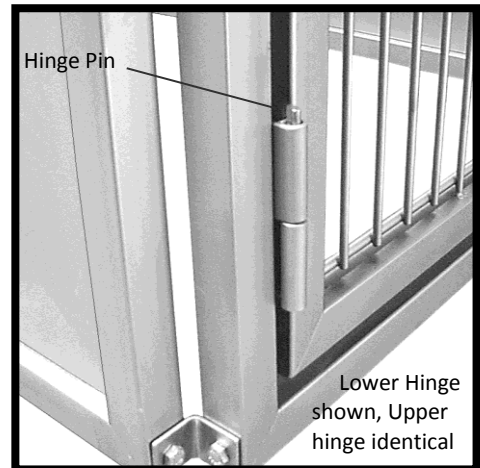

Figure 59: Swinging Gate Hinge Pin
1. Use a punch and a small hammer to drive the existing pin upward, and out of the hinge (Figure 59).
3. With a punch and a small hammer, drive both hinge pins upward, and out of the hinges (Figures 59 and 61).